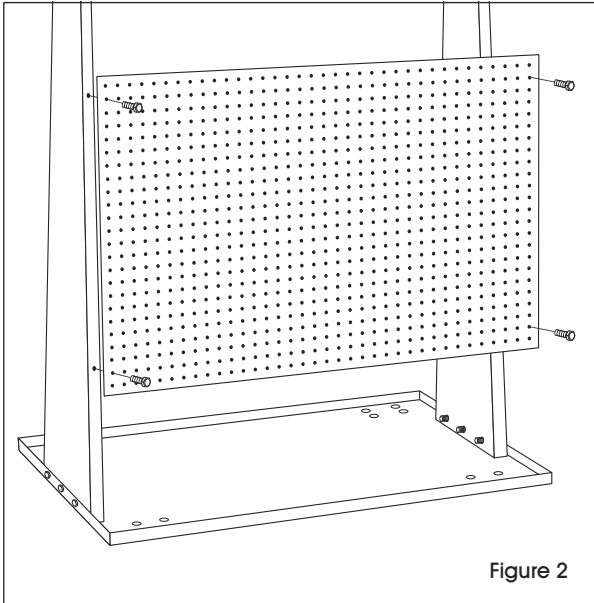

Figure 2
1. Place one pegboard panel across the bottom portion of the two support panels so the second hole from the top and bottom of the pegboard panel aligns with holes in the support panels. (See Figure 2)
2. Insert four short bolts through the holes in the pegboard. Secure using 10 mm wrench, but do not tighten. (See Figure 2)